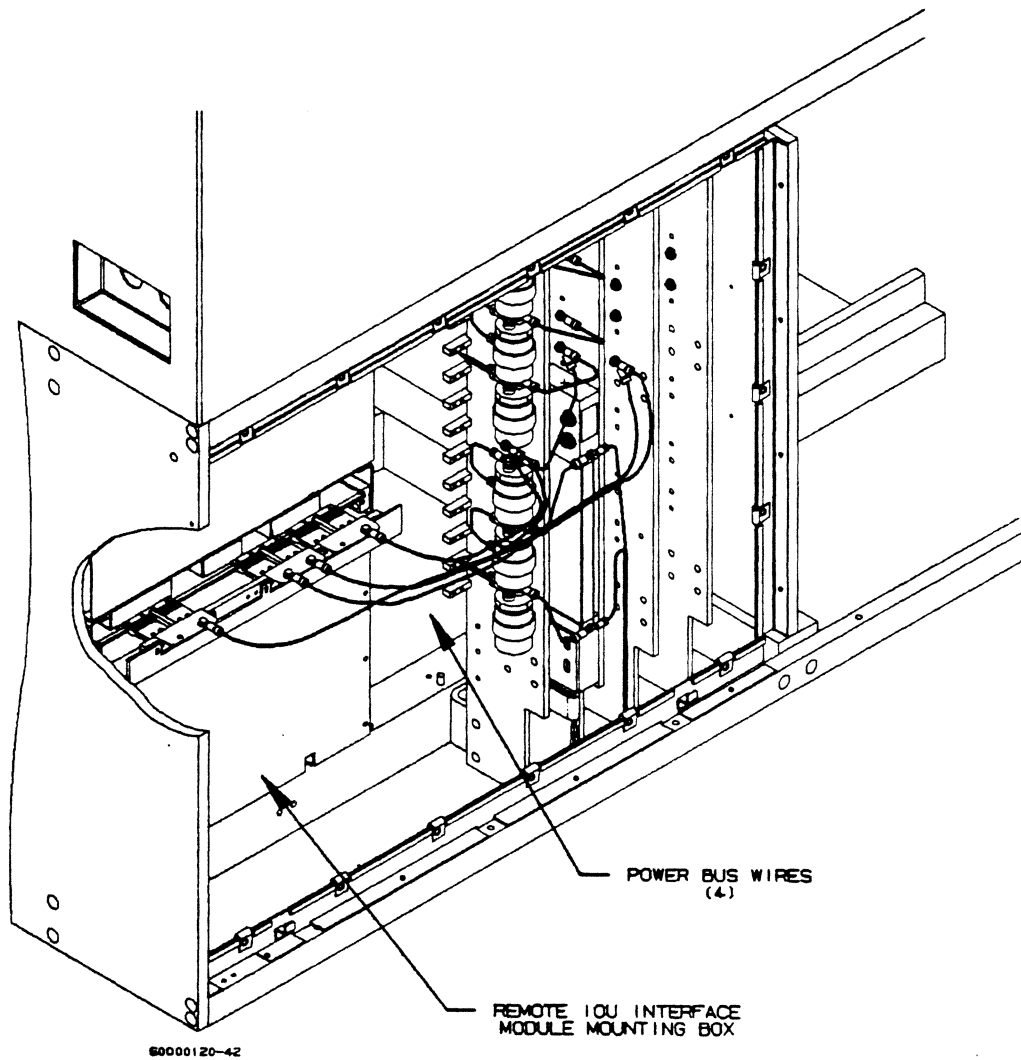

Figure 3-8. Mounting Box Bus Wire Connections
- 6. Remove power bus wires between mounting box and CP-0 bus bars from CP-0 bus bars (figure 3-8).